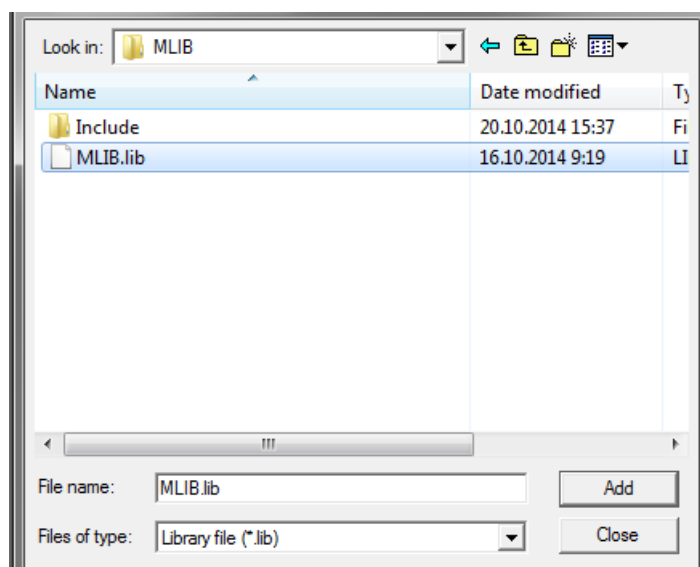

Figure 1-33. Adding .lib files dialog
5. Navigate to the parent folder C:\NXP\RTCESL\CM4CM33CM33F_RTCESL_4.6_KEIL\MLIB, and select the *mllib.lib* file. If the file does not appear, set the Files of type filter to Library file. Click Add. See Figure 1-33.